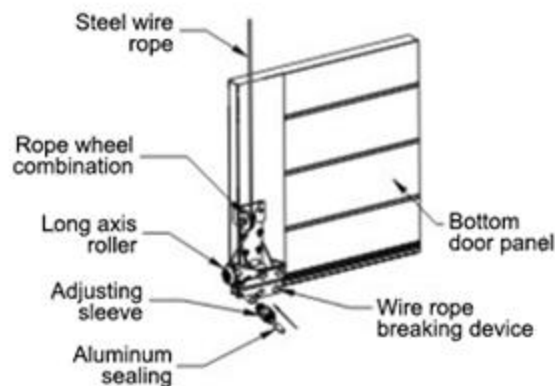

Figure 7-1
7.1.1 Installation of vertical lifting type anti-wire rope breakage device (Fig. 7-1)